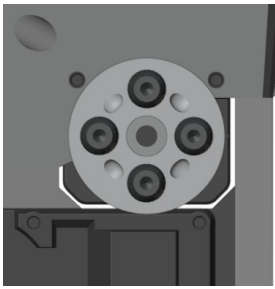

Figure 5.65: Positioning the spool on the servo motor
4. Thread the end into the bottom left hole of the spool and pass it out through the corresponding outlet hole of the same spool (figure 5.65), make sure enough tendon protrudes to prevent it slipping back through.